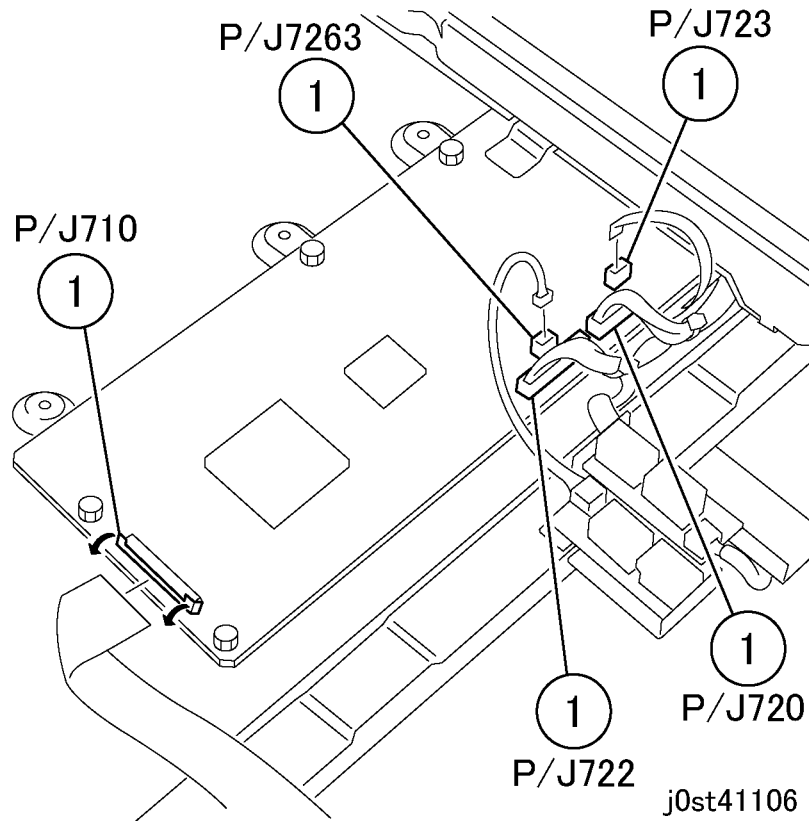

Figure 2 Disconnecting the connector (j0st41106)
4. Disconnect the connector. (Figure 2)